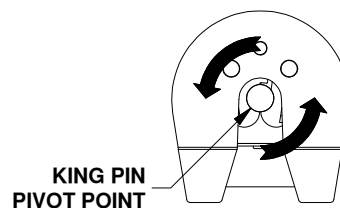
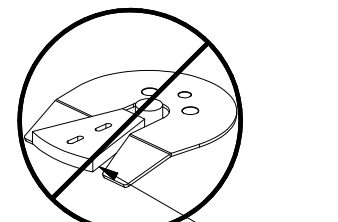

Figure G1:
Figure G2:
**⚠ WARNING:** Do not use the 5th wheel hitch with any device that changes the location of the king pin pivot point. The king pin on your trailer must rotate in the jaws of the coupler, see Figure G1. Preventing the king pin from rotating within the jaws of the coupler with a wedge, see Figure G2, or any other device, such as a Reese Sidewinder® or Reese Revolution®, could result in property damage, serious injury, or death.